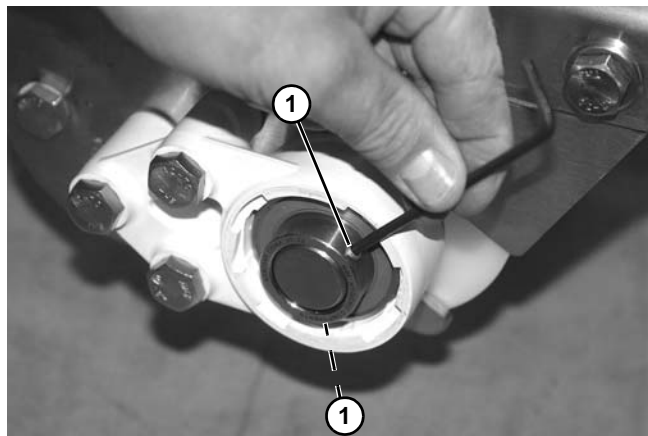

Figure 72
12. Using a hex key wrench, loosen two set screws (**Figure 72, item 1**) on bearing.